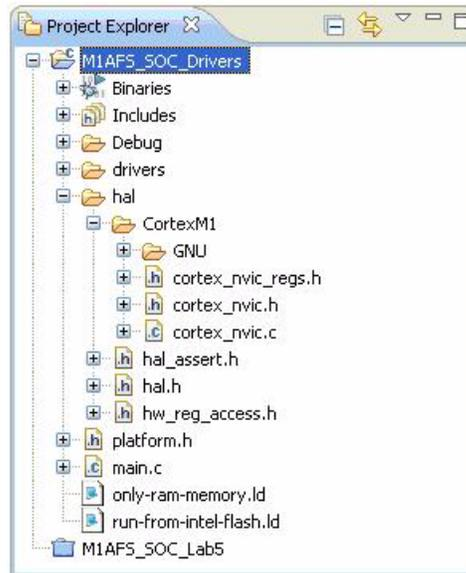

Figure A-5 · HAL Folders in Project Explorer View
- Click **Finish**. The HAL folders and source files (hal, hal\CortexM1 and hal\CortexM1\GNU) will appear in the SoftConsole Project Explorer view (Figure A-5).